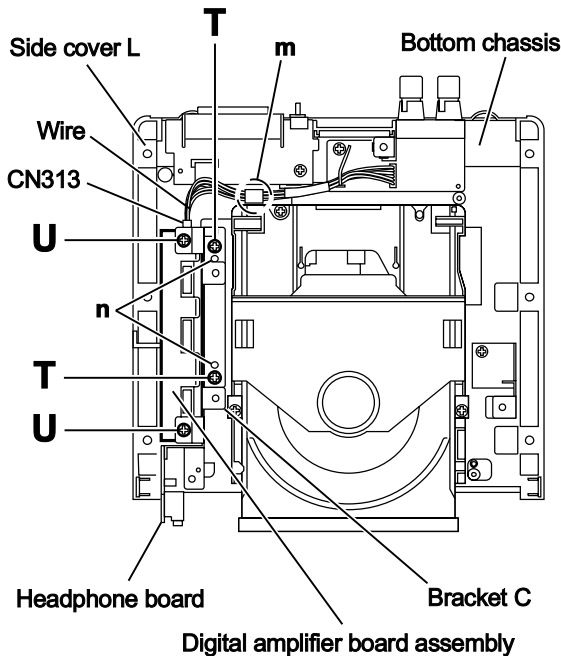

Fig.18
3.1.10 Removing the digital amplifier board (See Figs.18 to 20)
(1) From the back side of the main body, disconnect the card wire from the connector **CN313** on the digital amplifier board assembly. (See Fig.18.)
When connecting the wire, connect the wire to connector **CN313** on the digital amplifier board assembly after pass it through the section **m** of the side cover L. (See Fig.18.)
(2) From the top side of the main body, remove the two screws **T** and two screws **U** attaching the bracket C. (See Fig.18.)
(3) Take out the bracket C with the headphone board from the main body.
When attaching the bracket C to the bottom chassis, attach it after fitting the holes to the projections **n** of the bottom chassis. (See Fig.18.)